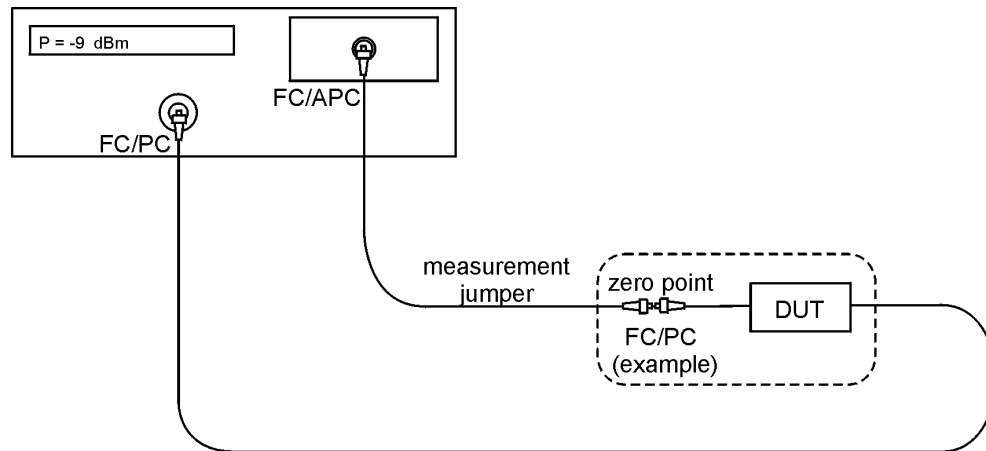

Figure 8: Measuring Absolute Power
4. Connect the output connector of the DUT to the detector on the front of the meter. The detector must be equipped with the appropriate detector adapter. The RM meter displays the DUT absolute power output (Figure 8).